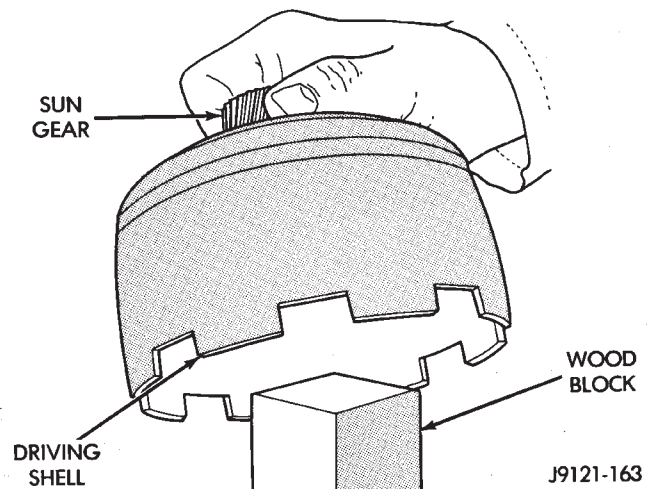

Fig. 76 Supporting Sun Gear On Wood Block
(11) Position wood block on bench and support sun gear on block (Fig. 76). This makes it easier to align and install sun gear lock ring. Keep wood block handy as it will also be used for geartrain end play check.